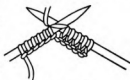

FIGURE 70
*Plain Knit* (Figure 70). — After the required number of stitches are on the needle, slip the right-hand needle into the last stitch made. Place the yarn over the right-hand needle and draw through the stitch. Slip the stitch from the left-hand needle, leaving it on the right. Continue in this way until all the stitches are on the right-hand needle. Change the right-hand needle to the left hand and continue as before.